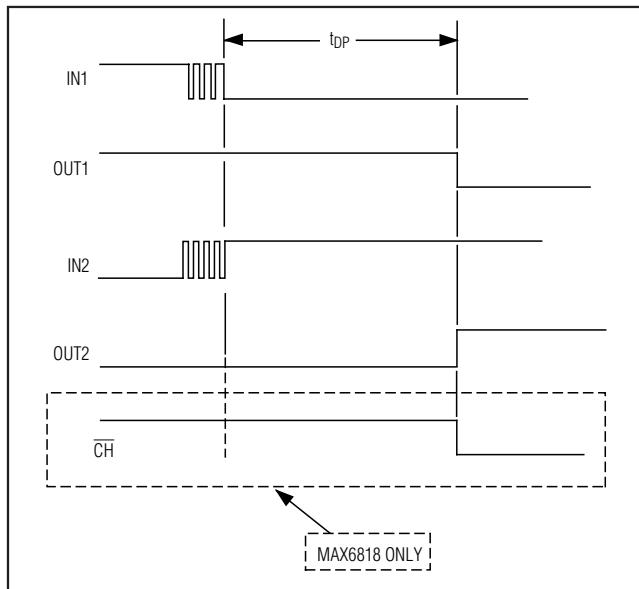

Figure 2. Input Characteristics
input does not equal the output, the XNOR gate issues a counter reset. When the switch input state is stable for the full qualification period, the counter clocks the flip-flop, updating the output. Figure 2 shows the typical opening and closing switch debounce operation. On the MAX6818, the change output (CH) is updated simultaneously with the switch outputs.